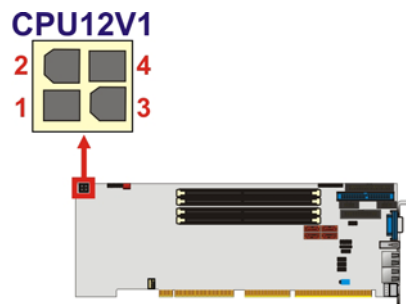

Figure 3-2: ATX-12V Connector Location
- CN Location:** See Figure 3-2